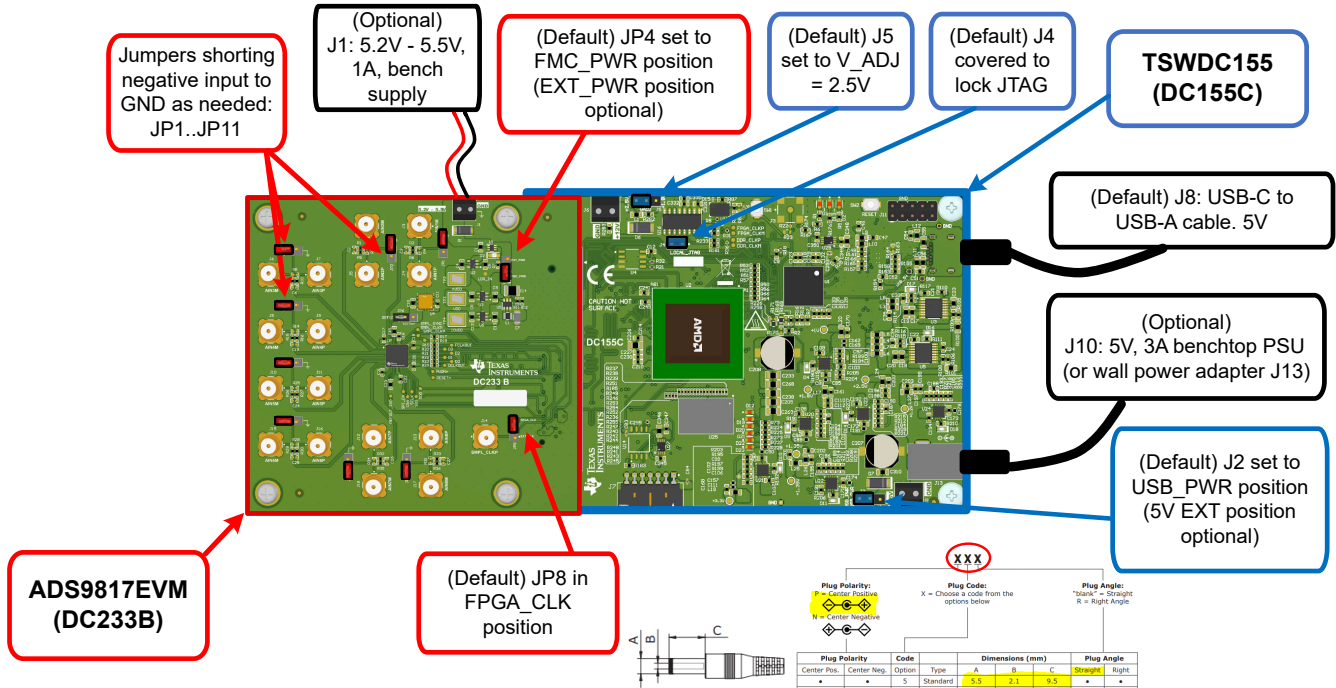

Figure 2-1. Connecting the Hardware
1. Review the default jumper settings in Figure 2-1 and the power guidelines in Section 2.5.1.